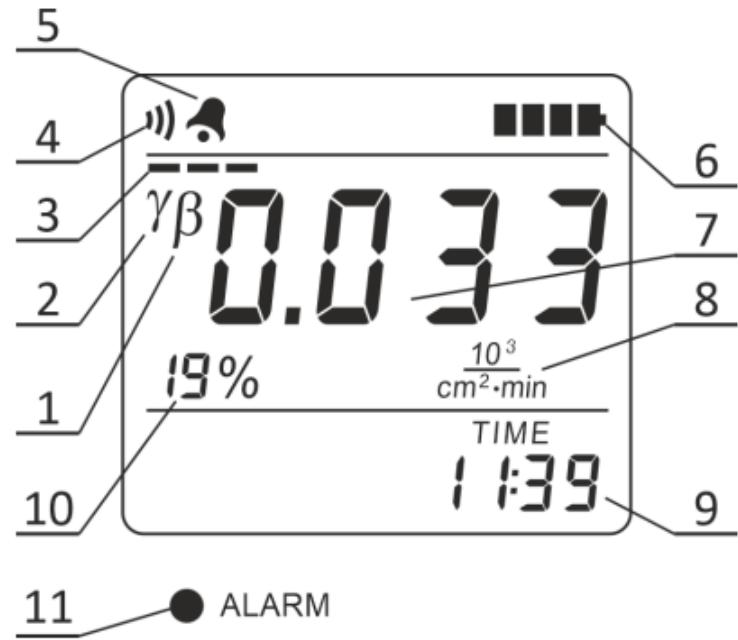

Figure 2.9 – LCD of the radiometer
2.3.3.7.8 When measuring characteristics of beta radiation intensity, the LCD of the radiometer displays the following information (Figure 2.9):
- the estimated limit of statistical deviations (10) of the measurement result (7);
- “ β ” symbol (1) - an indication of the measured radiation type;
- “ γ ” symbol (2) - is displayed if measurement takes place without subtraction of gamma radiation component;
- instantaneous value indicator (3);
- sound symbol (4) (if sound signaling of detected gamma quanta and beta particles is switched on);
- alarm clock symbol (5) (if the alarm clock is on);
- battery status symbol (6);
- measurement result (7);
- dimension of measurement result (8) $10^3/(\text{cm}^2 \cdot \text{min})$, cps or faded away, if the dimension is Bq/cm^2 ;
- current time (9).
If surface activity measurement is carried out in Bq/cm^2 , then “Act” characters are periodically displayed on the LCD of the radiometer and the dimension of the measurement result goes blank (8) (Figure 2.9).